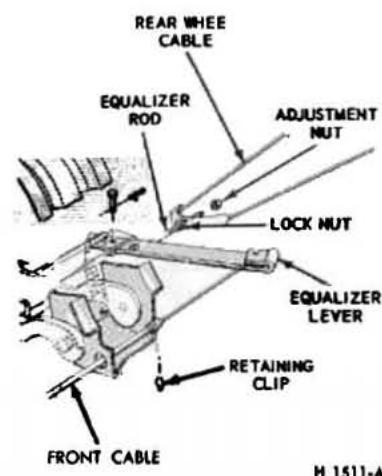

Fig. 99—Parking Brake Linkage Adjustment—Mustang and Cougar
4. Turn the locking adjustment nut forward against the equalizer (Fig. 99) until a moderate drag is felt when turning the rear wheels in the direction of forward rotation.